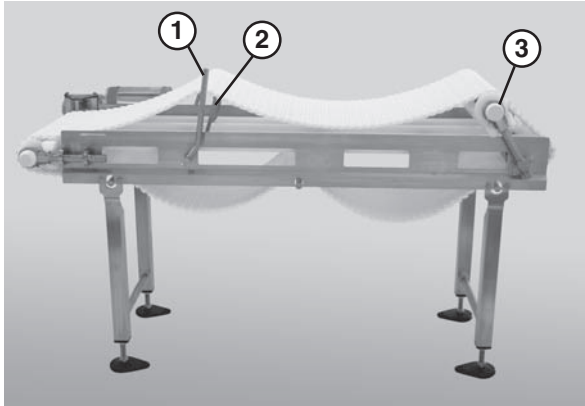

Figure 48
2. Use the lifter handle (**Figure 48, item 1**) to raise the lifters (**Figure 48, item 2**) and raise the tip up tail (**Figure 48, item 3**).